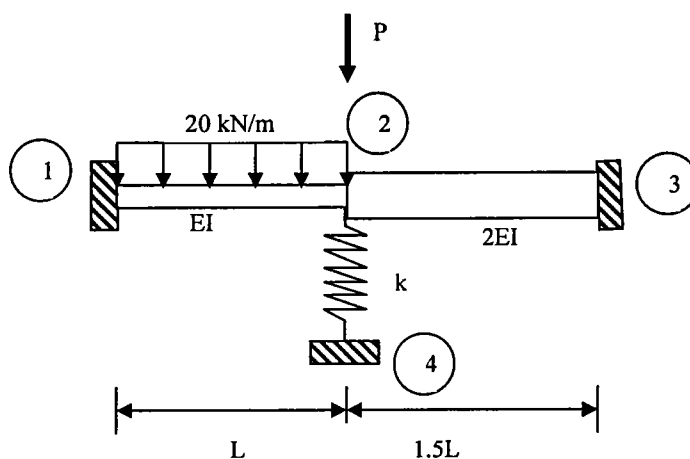

Figure 3 / Rajah 3
- (b) For the beam-spring system with arbitrarily numbered nodes shown in Figure 3, given $k = 15 \text{ MN/m}$, $EI = 7.5 \text{ MNm}^2$, $P = 500 \text{ kN}$ and $L = 2.0 \text{ m}$, determine: